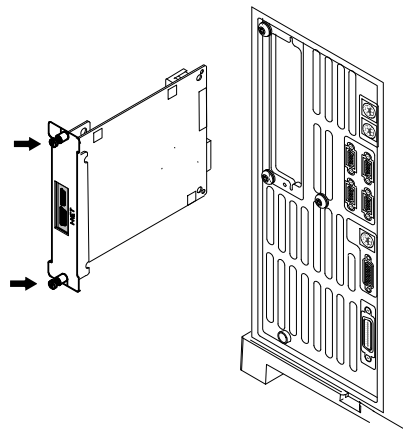

Figure 27 Removing the LAN card
- 8 If an MIO card (LAN card) is installed, loosen its two mounting screws and slide the card out of the GC (Figure 27).